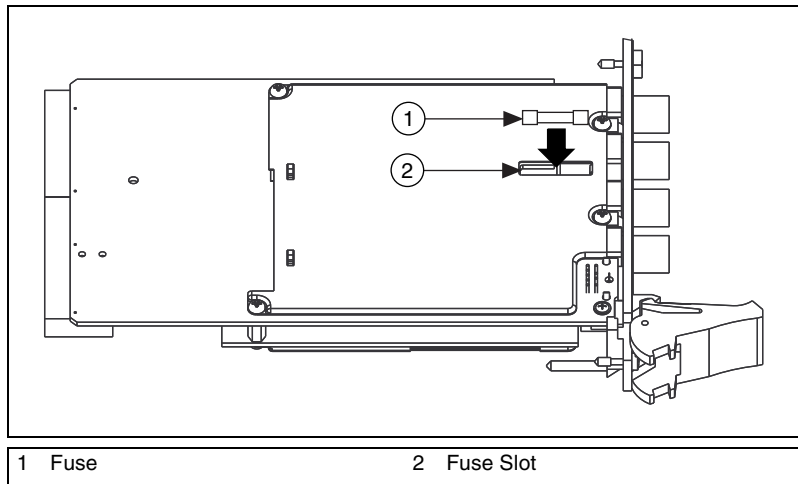

Figure 22. Replacing the Blown Fuse in the NI PXI-4070
8. Insert a new fuse into the fuse slot as shown in Figure 22.